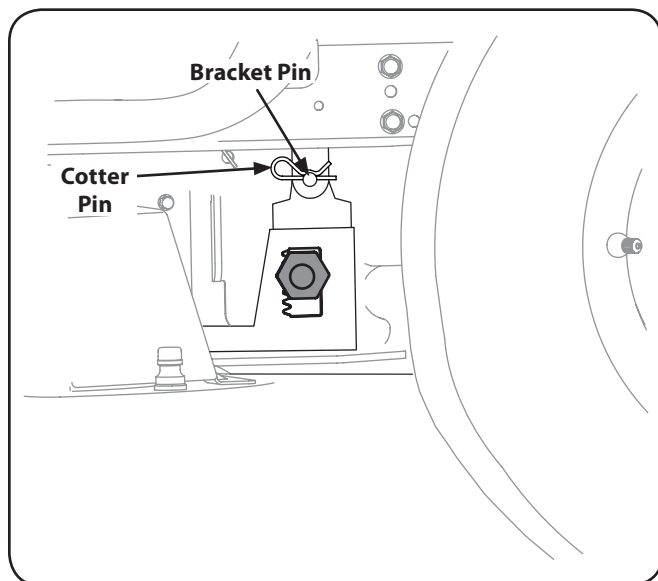

Figure 7-8
4. Once the brackets are properly aligned, slide the pin on the deck lift adjustment bracket into the lift bracket and secure with cotter pins. See Fig. 7-8.